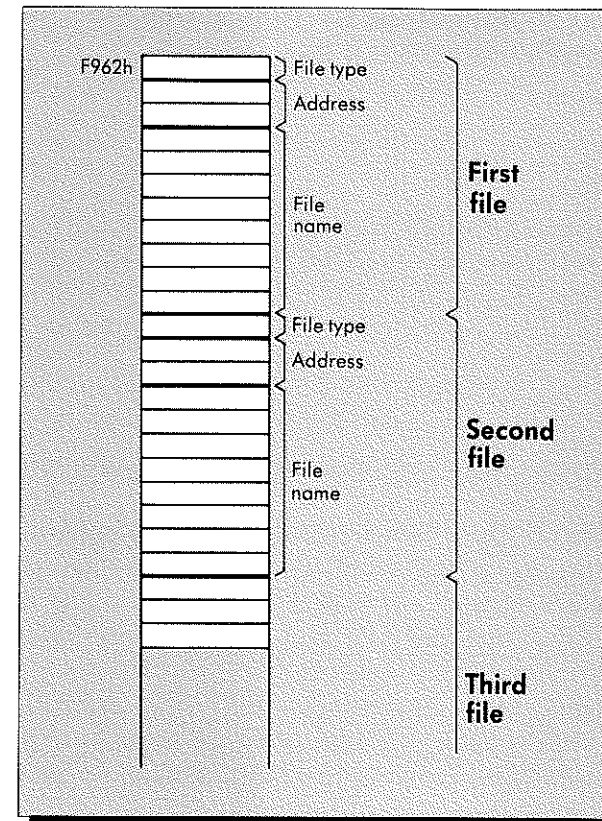
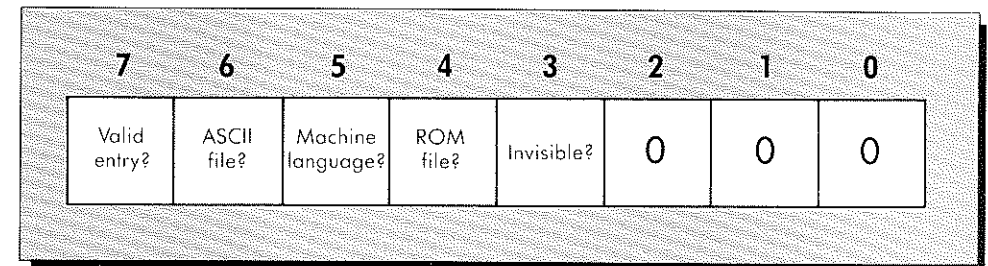

Figure 3-10. The directory
Figure 3-11. The bits of the file type byte
The directory is stored in RAM starting at F962h = 63,842d (see Figure 3-10). Each entry in the RAM directory takes up eleven bytes. The first byte contains the file type and protection code (see Figure 3-11). The individual bits are assigned as follows: bit 7 is 1 if the entry is currently being used and 0 if it is invalid, bit 6 is 1 if it is an ASCII (DO) file, bit 5 is 1 if it is a machine-language file (CO), bit 4 is 1 if it is a ROM file, and bit 3 is 1 if it is an invisible file. Thus, for example, the ROM programs BASIC, TEXT, TELCOM, ADDRSS, and SCHEDL are stored as files of type B0h = 176d (valid, machine language, and ROM bits are all on). The second and third bytes contain the address of the body of the file in the usual low/high format. The next eight bytes contain the name of the file. For files created by the Model 100's various utilities, the first six bytes contain the main part of the name and the last two bytes contain the file extension. If the main part of the name is less than six characters, the remaining bytes between the main part of the name and the file extension are filled with spaces.